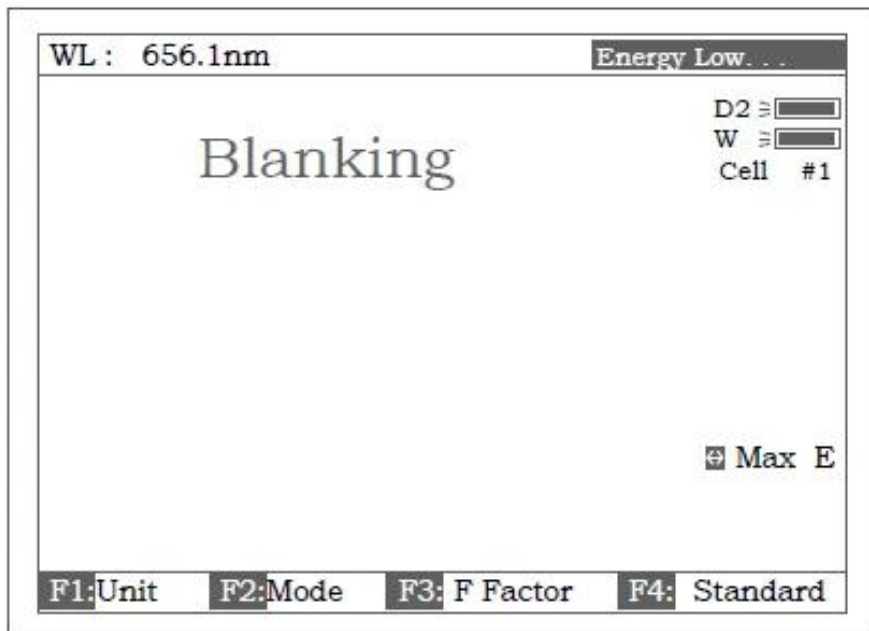

Figure 8
Note 1. If the reference solution is too thick, "Energy Low..." will appear following the "Blanking..." on the screen (Fig 8). If "Energy too Low..." appears following the "Blanking...", the test will be paused and "Warning..." will appear on the screen. (Fig 9).
2. If no automatic changer installed "cell #1" and "Max E" will disappear in Fig8